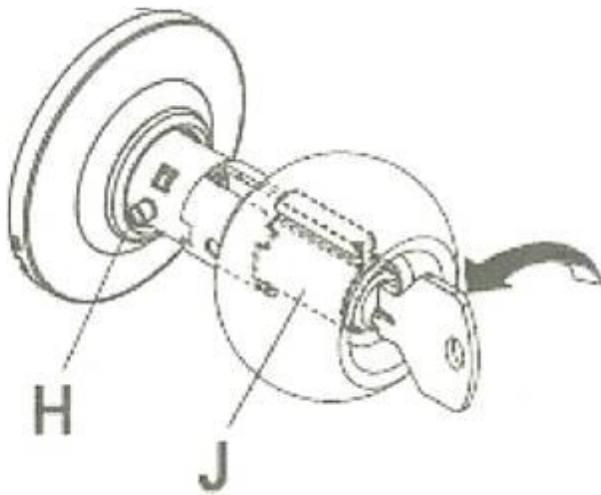

FIGURE 9-2
Install Hardware	<ol style="list-style-type: none">4. Install lockset and strike plate per instructions.<ol style="list-style-type: none">a. Be sure door latches easily but tightly with little rattleb. If it rattles. Bend tab inside the strike plate with flat blade screwdriver5. Install the security deadbolt strike plate (not that provided with lockset).<ol style="list-style-type: none">a. Set strike plate in place, predrill into Jack stud with 3/16" bit, secure with two large screws providedb. Make sure deadbolt is installed so top of lever turns in the direction of bold travel. If it does not, remove deadbolt from door, rotate 180° and reinstall6. Install lockset per instructions and make sure lockset and deadbolt key direction is the same (notches up). See Fig. 9-2 (Reverses side). If not:<ol style="list-style-type: none">a. Unlock the lock and insert the key half-way (do not insert completely)b. Push in retainer pin (H) on neck of knob, pull knob just past the pinc. Holding knob, rotate cylinder (J) to correct orientationd. Push in pin and push knob back in place.7. Verify Lockset and deadbolt operation. Adjust as needed for easy operation, door closes snugly, latches with little effort, deadbolt engages/disengages easily and moves in same direction as top of lever (Fig. 9-2 next page)